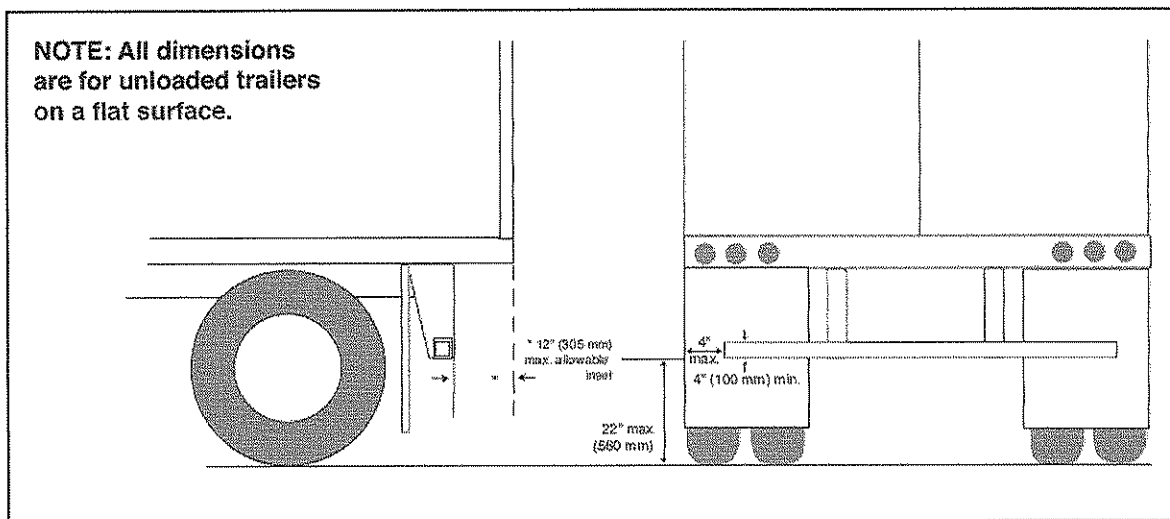
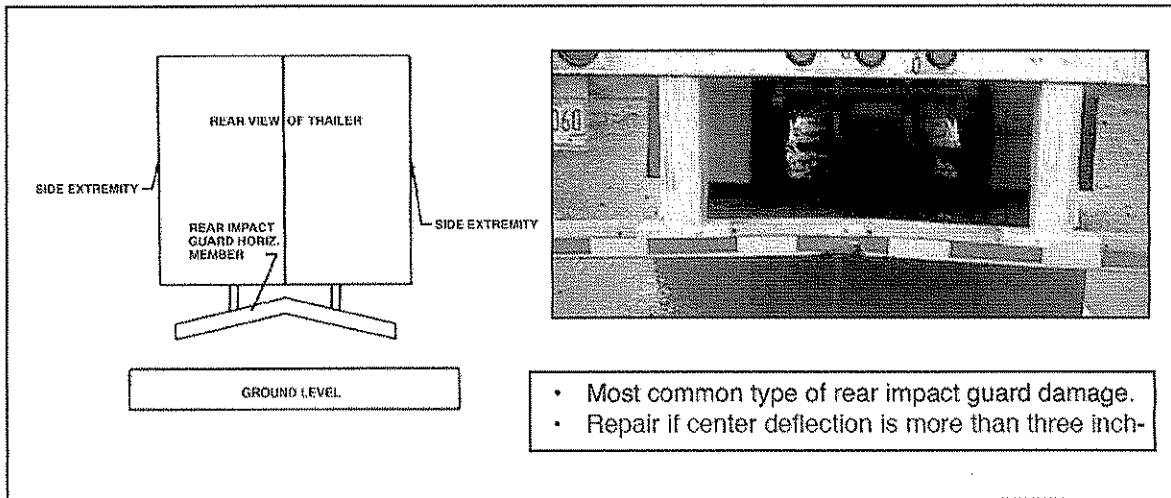

Figure 1
Figure 2
guards. The rules also require a certification plate or label to be located on the forward-facing surface of the horizontal member and located within 12 inches of the outside of the horizontal member on the curbside. This label must give the name and address of the guard manufacturer, month and year of manufacture and the letters "DOT." The guard must conform to the dimensions shown in **Figure 1**.
**NOTE: FMCSR 393.86, which became effective on October 1, 1999, requires that equipment users maintain the underride guard in a close-to-like new condition. This, in part, means that it should not deviate improperly from the dimensions given in Figure 1.**
damage falls into a few distinct categories. A common type of damage is a vertical bend in the horizontal member of the impact guard, shown in Fig. 2. Manufacturer data and a study commissioned by the Technology & Maintenance Council with the National Research Council of Canada's Centre for Surface Transportation Technology indicates that this type of damage does not affect a particular guard's ability to meet the strength or energy absorption requirements of FMVSS 223 and 224 if the deflection is three inches or less. If the bend exceeds three inches, it should be repaired to conform to the dimensions shown in Figure 1.
Cracked welds must be repaired as soon as discovered. Minor cuts, tears, or dimples do not have to be addressed as long as the dimensions in **Figure 1** are met.